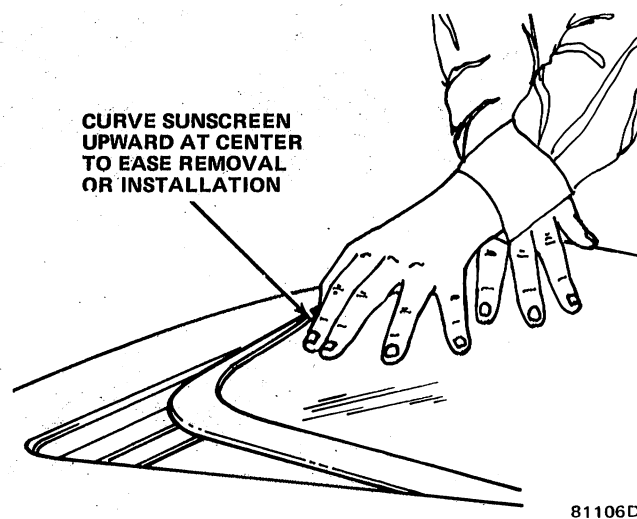

Fig. 3L-15 Sunscreen Removal/Installation
(1) Working from outside of vehicle, curve sunscreen upward at center of screen and slide screen rearward and downward into sun roof opening (fig. 3L-15).
(2) Install glass panel and halo assembly. Refer to Glass Panel Installation and Halo Assembly Installation procedure.